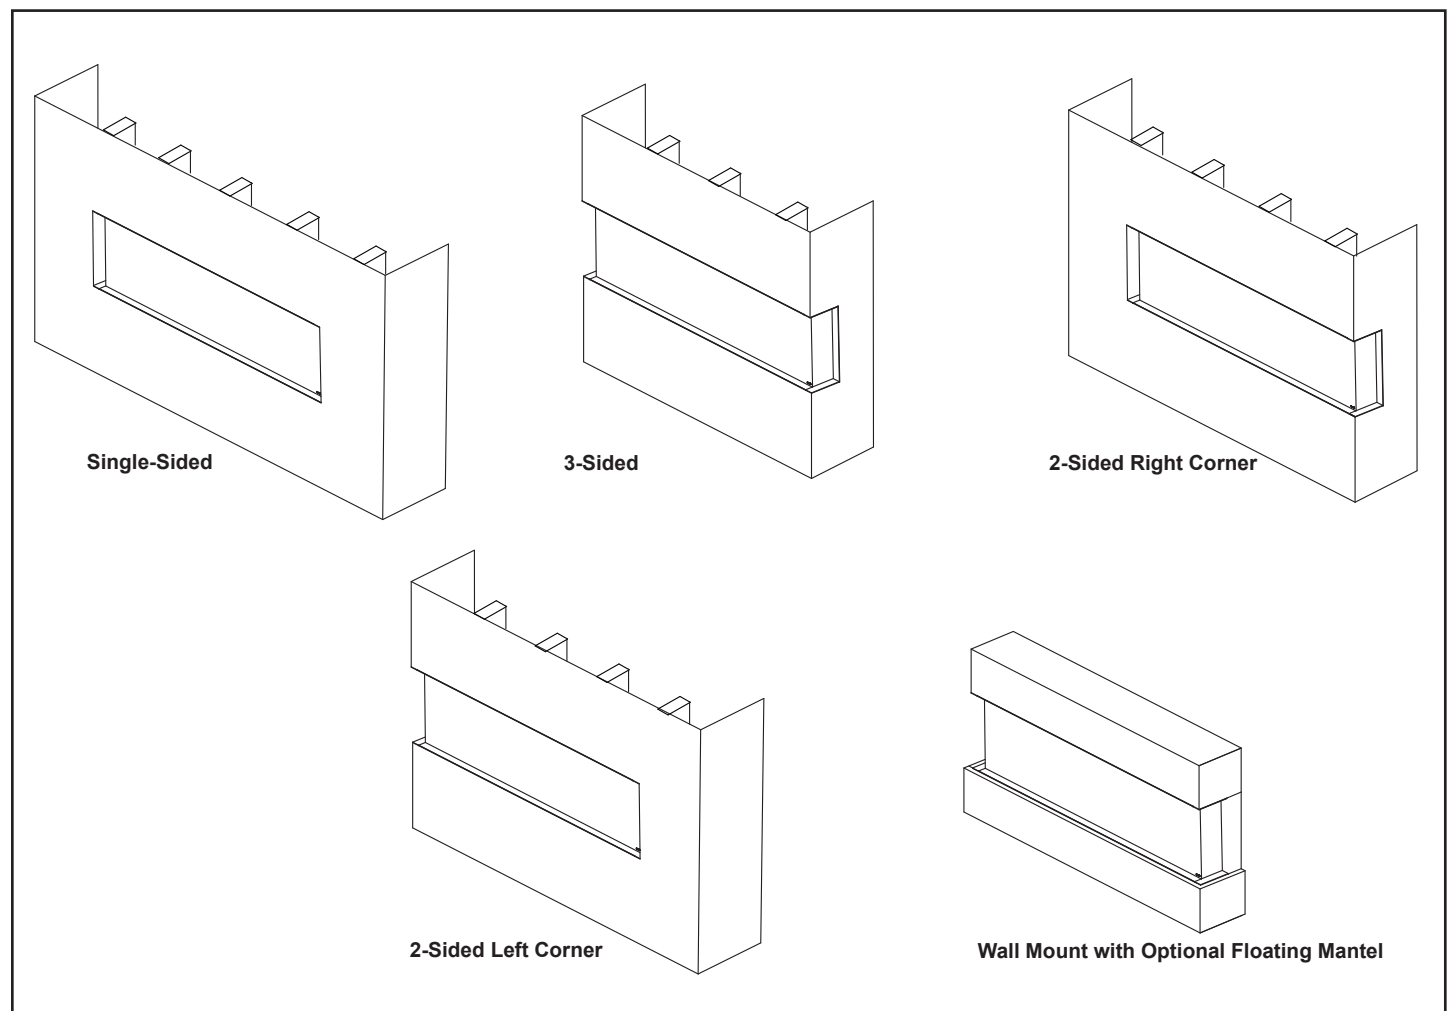

Figure 4.1 Installation Options
- The Triton (all models) can be built into the wall in a single-sided, 2-sided, or 3-sided configuration. See Figure 4.1 for configurations.